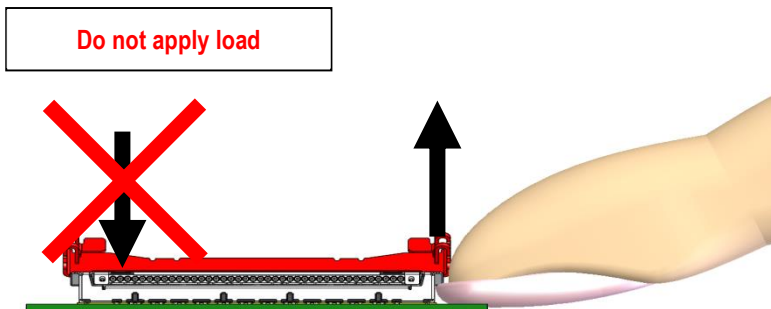

Fig.28
- When removing one side (cable pitch direction) first, please do not apply load to the top of the connector. (see Fig.28)